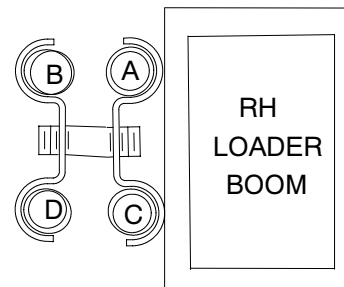

Figure 11 Loader Feedline Connections
2. Connect loader feedline hoses to tractor hydraulic couplers. See Figure 11.